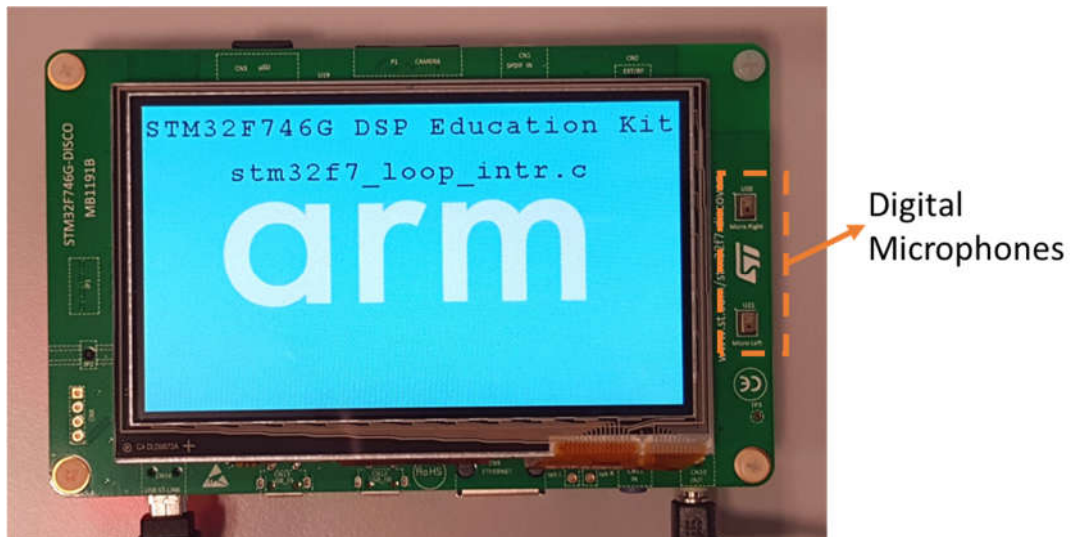

Figure 5: Start screen for program `stm32f7_loop_intr.c`
11. Once the program is running, you should see a start screen on the LCD on the board as shown in Figure 5. You should be able to hear sounds picked up by the digital microphones on the STM32F746 Discovery board (micro right and micro left on the right side of the LCD screen as shown in Figure 5). Depending on the characteristics of the headphones you are using, the sound may be loud or quiet. If you cannot hear anything, try blowing gently onto the microphones.